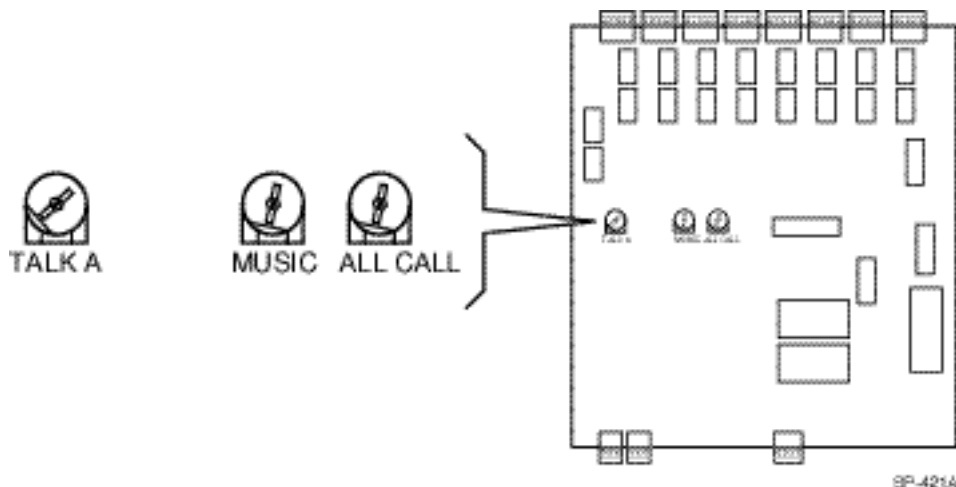

Figure 7. Communications Controller Volume Controls
3. If the volume is unsatisfactory, adjust TALK A in the Communications Controller (see Figure 7). Turn clockwise to increase the volume, counter-clockwise to decrease it.